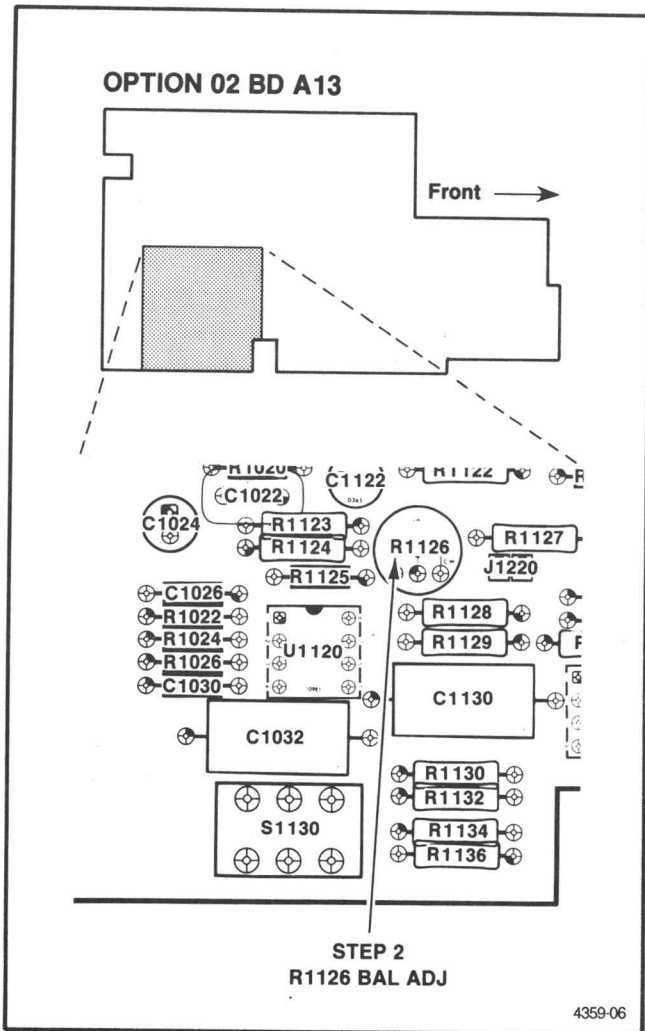

Fig. 4-9. Location of R1126, Bal Adj.
h. ADJUST—A13 R1126, Bal Adj, for a voltmeter reading equal to the reading recorded in part f. Refer to Fig. 4-9 for the adjustment location.